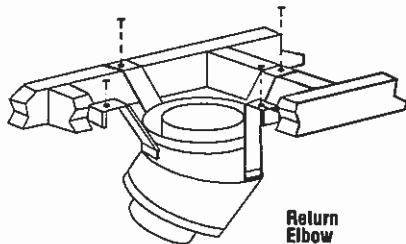

Figure 39
Step 5. Secure support straps to framing members by nailing under tension in sheer (Figure 39).